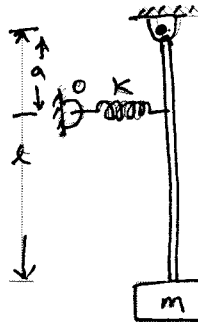

Figure.3
6. Derive the equation of motion for the following system shown in fig.3 and determine the natural frequency.